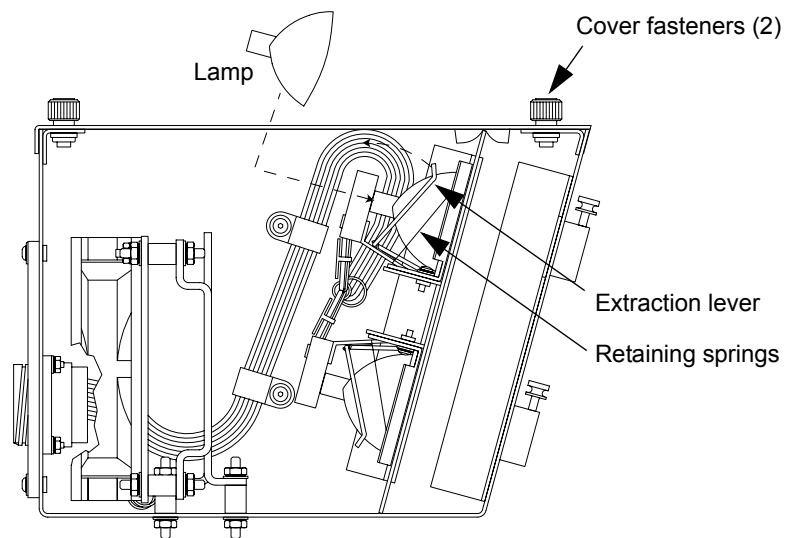

Figure 9-19 Replacing a Light Bulb
4. Loosen the light box cover fasteners, and remove the cover; see Figure 9-19.